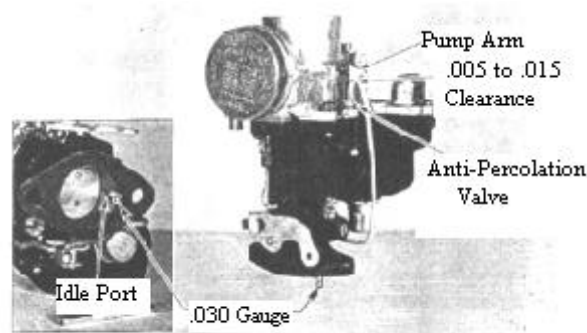

Figure 417
(71) Install anti-percolating plug and rocker arm assembly using 7/16" wrench. To adjust anti-percolator: set throttle valve at .030" opening between edge of valve and bore of carburetor on same side as port hole. Use a gauge .030" diameter (tool J-882 included in tune-up kit). Be sure to place gauge in front of idle port hole (insert Figure 417). Adjust rocker arm for .010" clearance (plus or minus .005") between rocker arm lip and pump arm (Figure 417). Check with narrow feeler gauge.